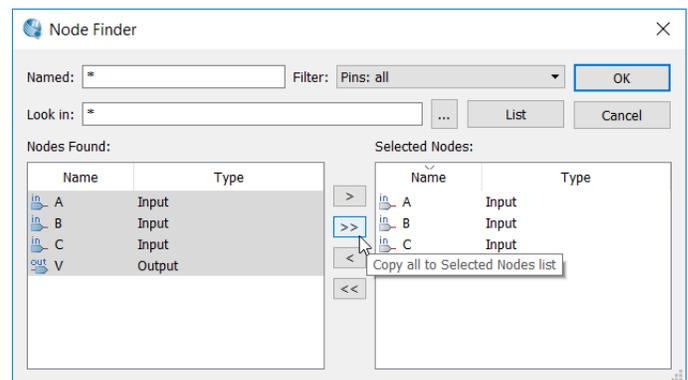

Figure 23. Node finder dialog.
5. Click **Node Finder..**. A pop-up box will appear as shown in Figure 23.